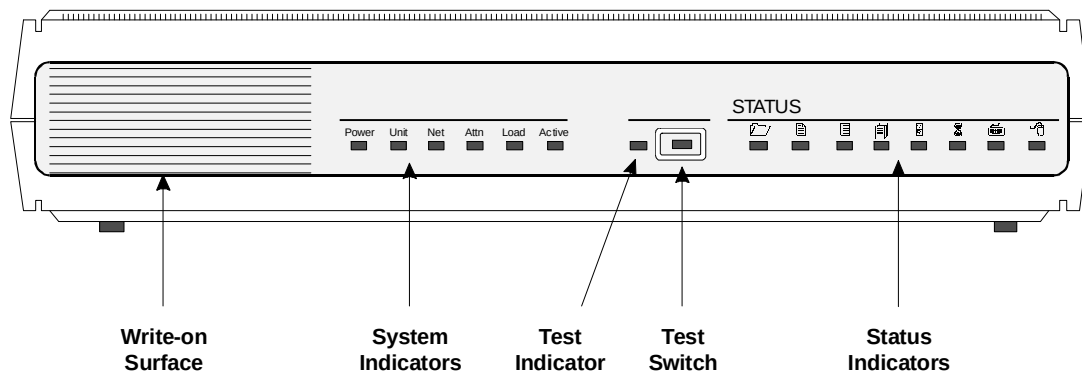

Figure D-56: Front Panel of the Network Terminal Server
9. Turn on the NTS, and within 15 seconds push the **TEST** button on the front of the NTS (see Figure D-56).